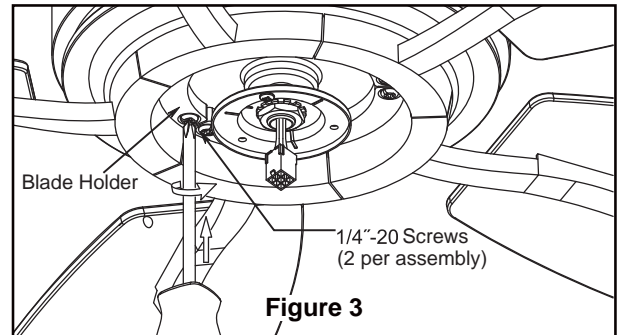

Figure 3
- 3.** Secure the blade holders to the bottom of the motor assembly using the 1/4"-20 screws. (Figure 3)